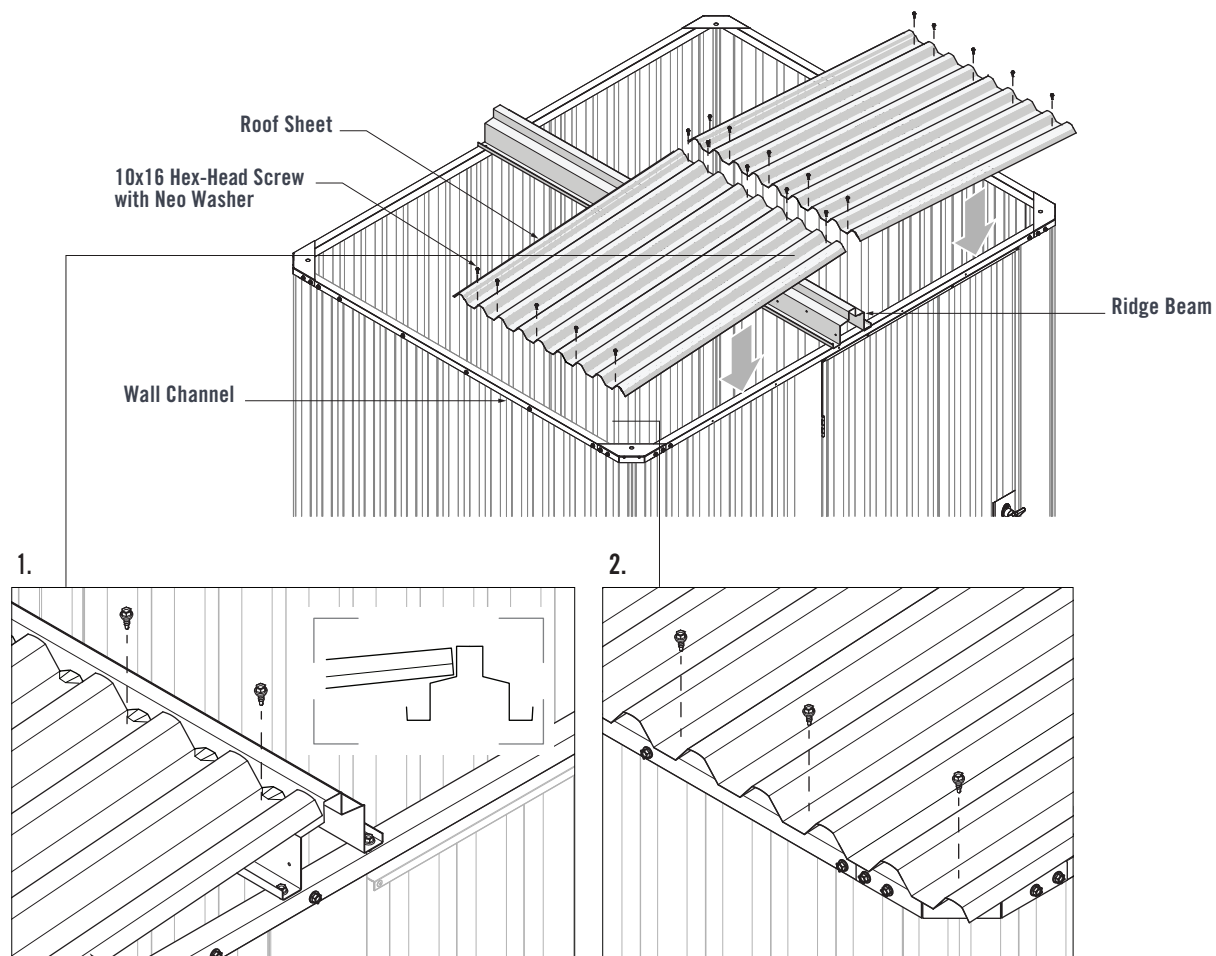

FIGURE 7.4
Lay a Roof Sheet onto the Ridge Beam and Wall Channel, ensuring the overlap end of the Roof Sheet is facing the front of the shed (Figure 7.4).
1. Ensure the end of the Roof Sheet is in-line with the end of the Ridge Beam. Fasten five 10x16 Hex-Head Screws with Neo Washers through the pans of the Roof Sheet and into the Ridge Beam (Figure 7.4).
2. Fasten five 10x16 Hex-Head Screws with Neo Washers through the pans of the Roof Sheet and into the Wall Channel (Figure 7.4).